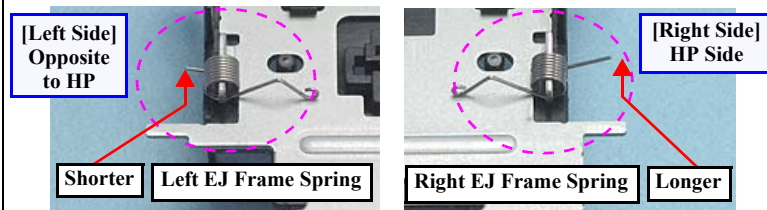

Figure 1-80. Reinstalling the Front Frame (1)
- When installing the EJ Frame Assy, make sure that the Left/Right EJ Frame Springs are attached as shown in Fig.1-80. Carefully handle the EJ Frame Assy as the springs come off easily.